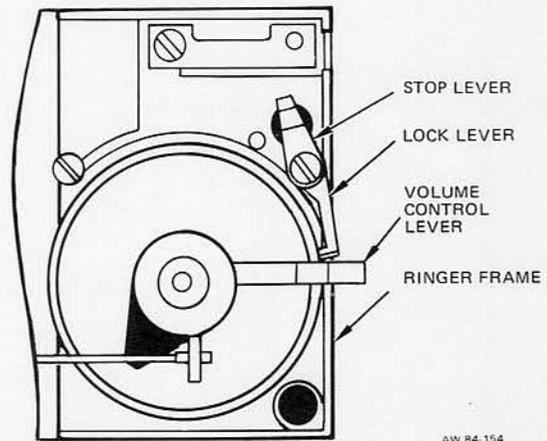

Figure 6: Lock Lever in Position to Prevent Low Ringing
8.03 The lock lever can be positioned to prevent the volume control lever from being moved into the low volume position. This is accomplished by positioning the lock lever as shown in Figure 6.